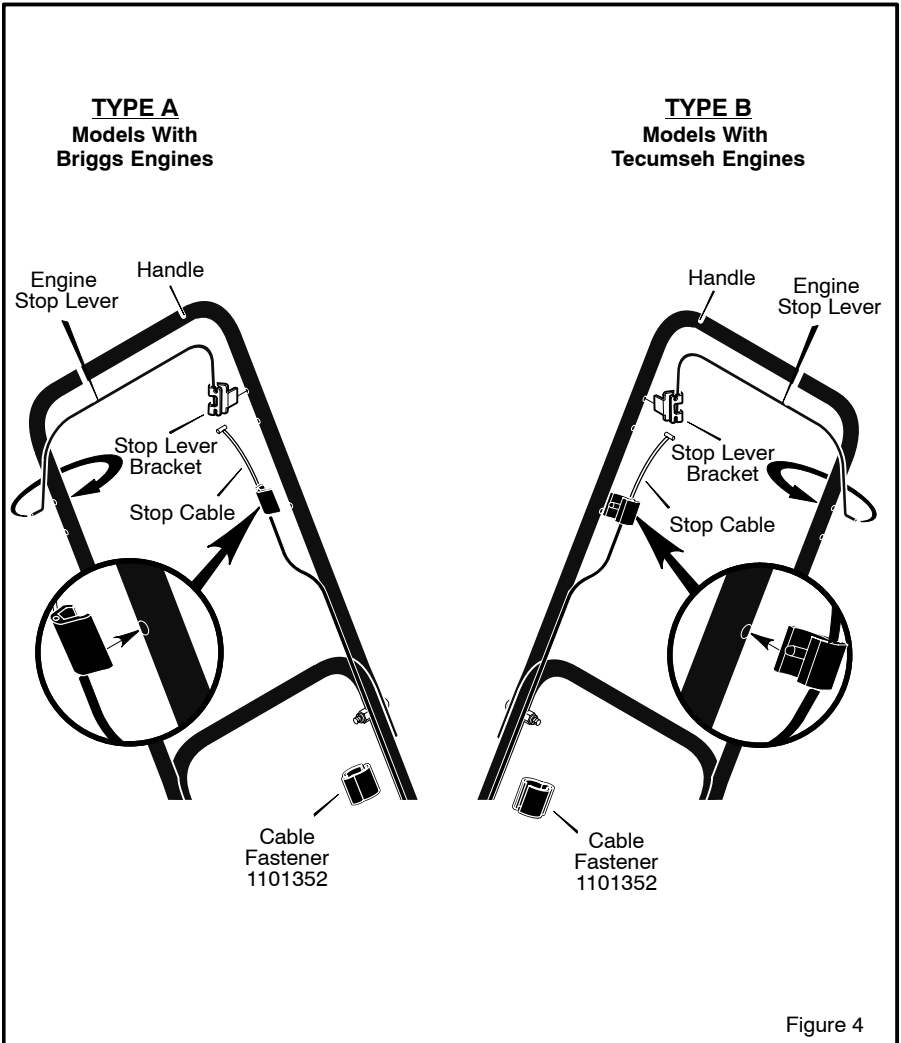

Figure 4
Two types of handles are shown in Figure 4. The engine on your model will determine which type of handle is on your model. **Type A** is for models with Briggs & Stratton engines. **Type B** is for models with Tecumseh engines.
2. Attach the the **stop cable** to the handle as shown in Figure 4.
5. Attach the **cable** to the handle with the **cable fastener(s)** as shown in Figure 4.